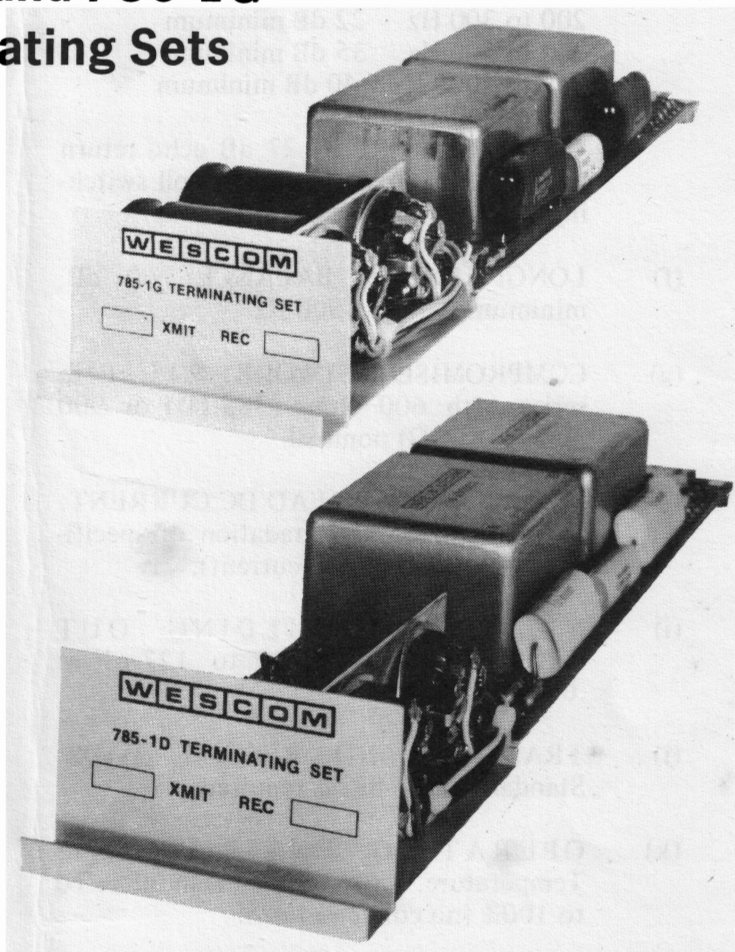

Figure 1. 785-1D and 785-1G Terminating Sets
1.02 The 785-1D and 785-1G Terminating Sets (Figure 1) are plug-in, printed circuit modules designed for terminating any four-wire facility requiring a high-grade, coil-type terminating set.